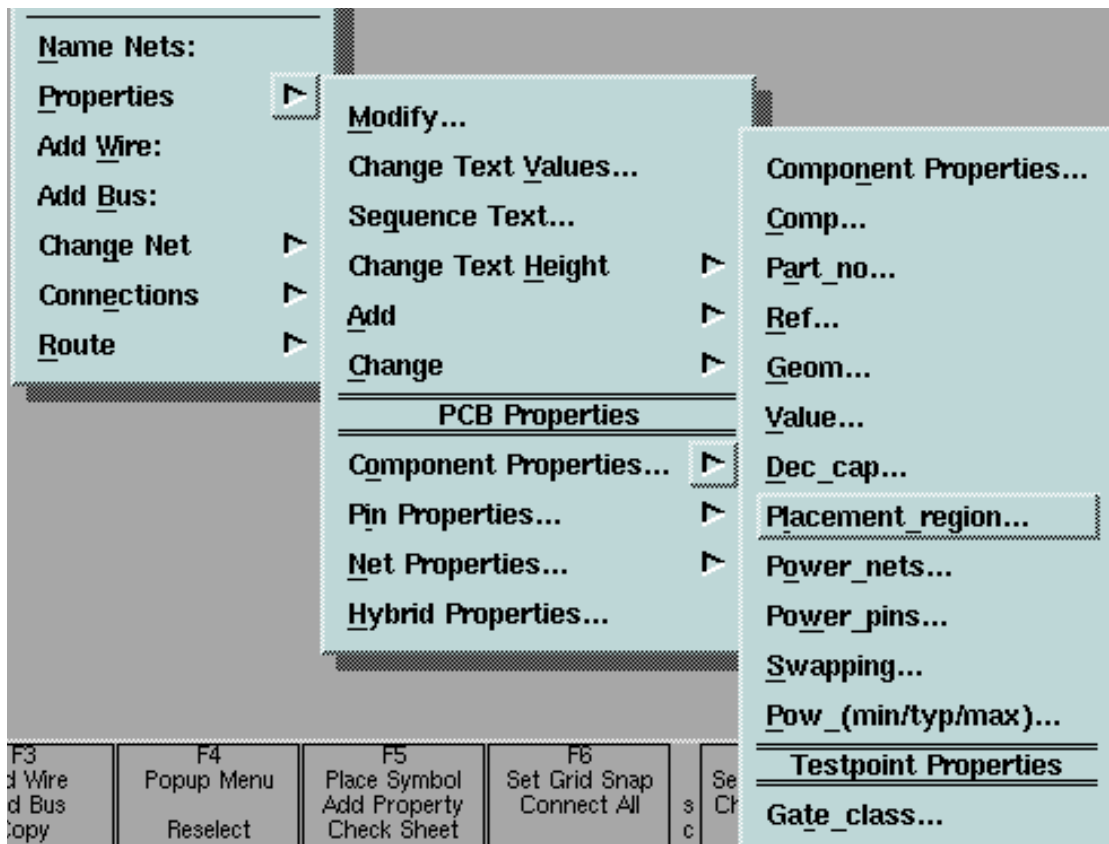

Figure 2-16. Properties > PCB Properties Submenu
2. Choose the **Properties > Component Properties > Placement_region** popup menu item, as shown in Figure 2-16.